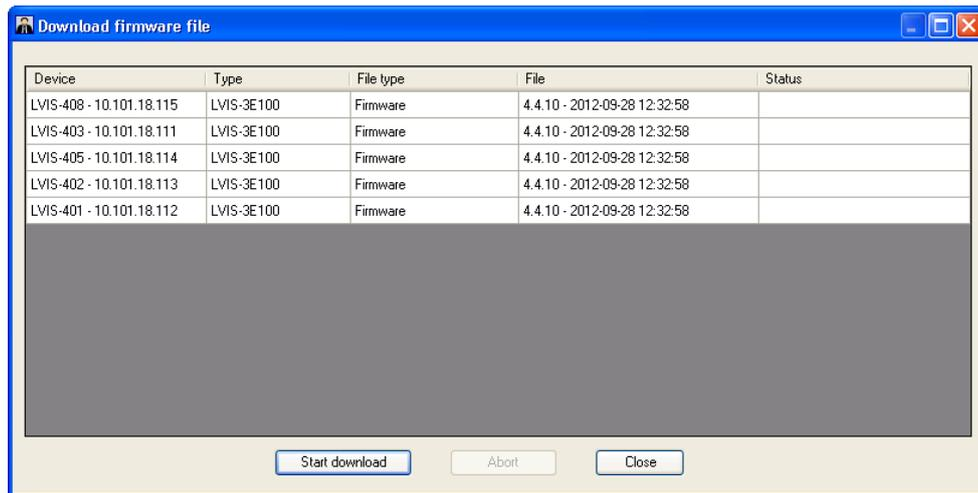

Figure 191: Download Firmware File Dialog
2. The **Download firmware file** dialog opens as shown in Figure 191. This dialog displays a list of devices and the firmware files which will be downloaded. To start the download, press the **Start download** button.